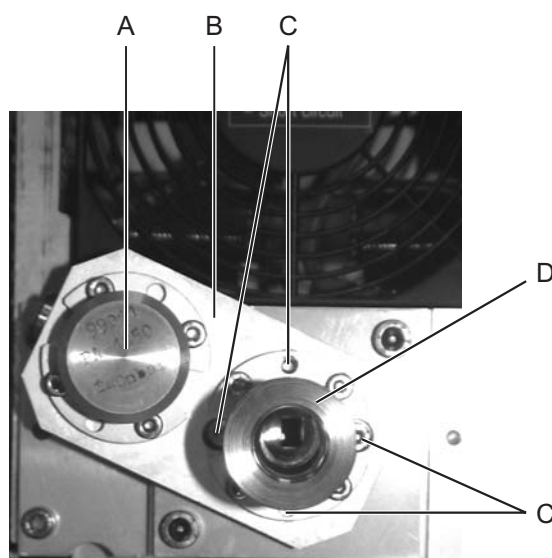

Figure 43: Beam path adapter
14. Loosen and remove the flexible tube from the beam path adapter. The flexible tube is secured through four allen screws (Figure 43).
Key to Figure 43:
Replace and tighten the flexible tube to the beam path adapter (see Figure 43 on page 123).